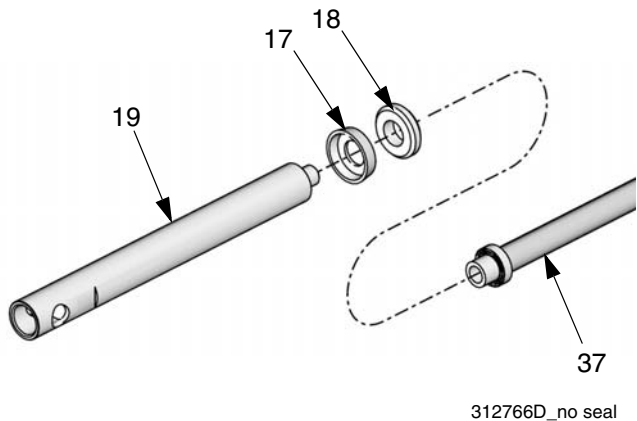

FIG. 18
1. Lubricate packing (17) and bearing (18) with no. 2 lithium-based grease.
2. Install the bearing (18), and cup packing (17) with the lips facing down on the pump connecting rod (37). See FIG. 18.